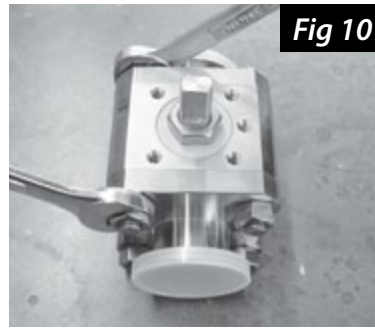
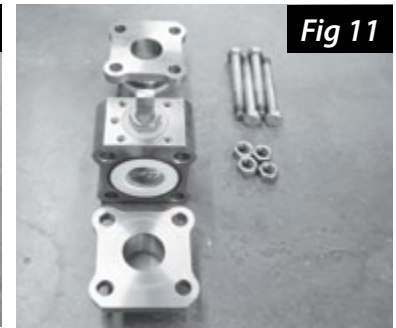

Fig 10
Fig 11
6. Remove the four body bolts using the two wrenches specified below (Fig 10). Remove the end caps and place them in a safe location (Fig 11).